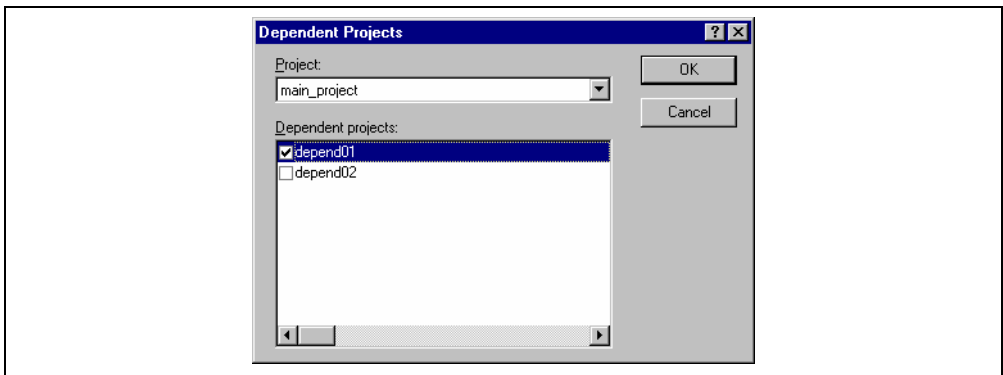

Figure 2.25: Dependent Projects dialog
1. Select **[Project->Dependent Projects]**. The “Dependent Projects” dialog will be displayed.(figure 2.25)